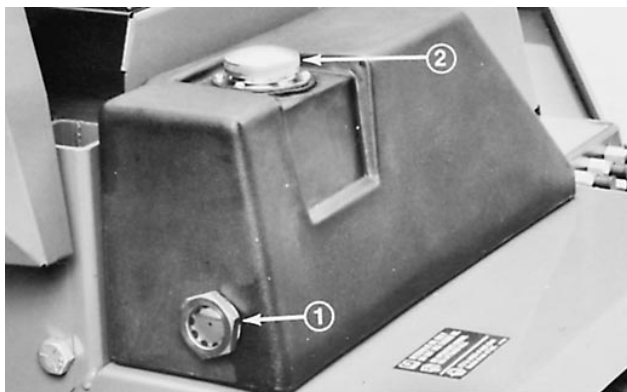

Figure 6
1. Fluid level should be checked daily through the sight glass at the rear of the hydraulic reservoir (Fig. 6). When oil is cold, the level will be slightly below center, but it should be in the middle of the sight glass when the oil is warm.
2. If the oil level is low, add hydraulic oil to the reservoir (Fig. 6); refer to Machine Fluid Recommendations.